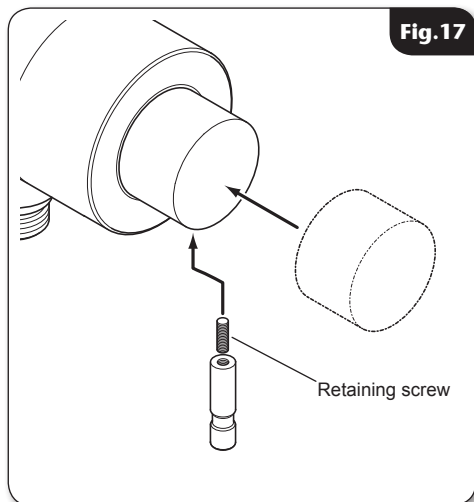

Fig. 17
- Fit the temperature knob, making sure the temperature control lever hole is aligned at 6 o'clock. Secure in place with the retaining grub screw and fit the lever (**fig.17**).